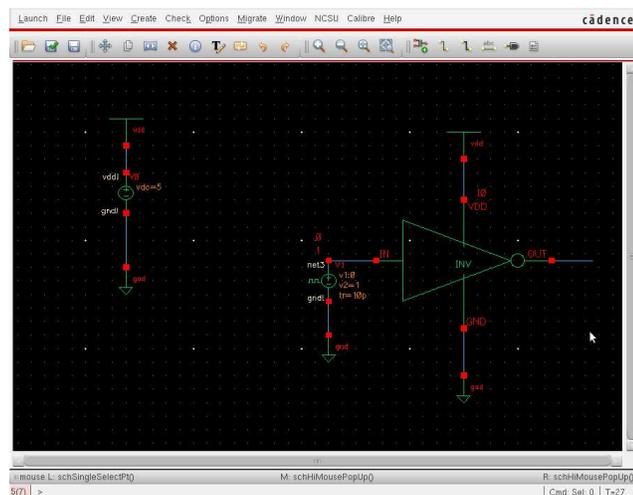

Figure 10: Test Bench schematic for inverter.
- To define the nets VDD and GND in the “NCSU_Analog_Parts” Library choose “Supply_Nets > vdd”. Add this symbol on top of the inverter and the DC voltage. Then from the same library choose “gnd” and connect it to all the grounds in your schematic. Click “ESC” to close the window. Your final circuit should look like figure 10.